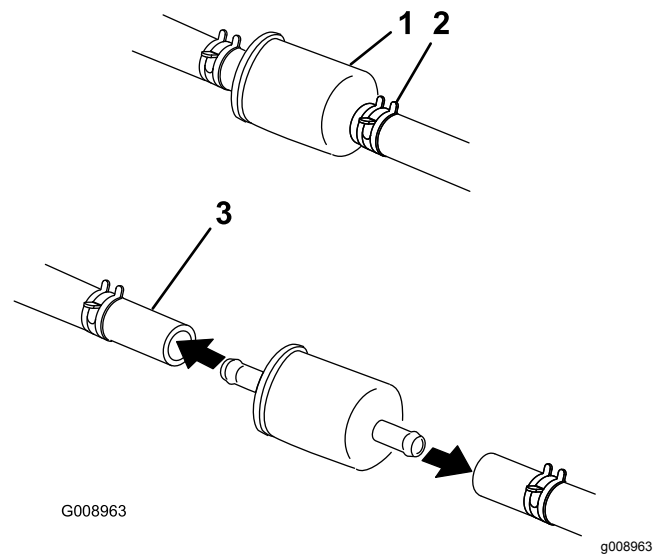

Figure 66
4. Close the fuel-shutoff valve under the seat (Figure 66).
5. Squeeze the ends of the hose clamps together and slide them away from the filter (Figure 66).
7. Install a new filter and move the hose clamps close to the filter (Figure 66).